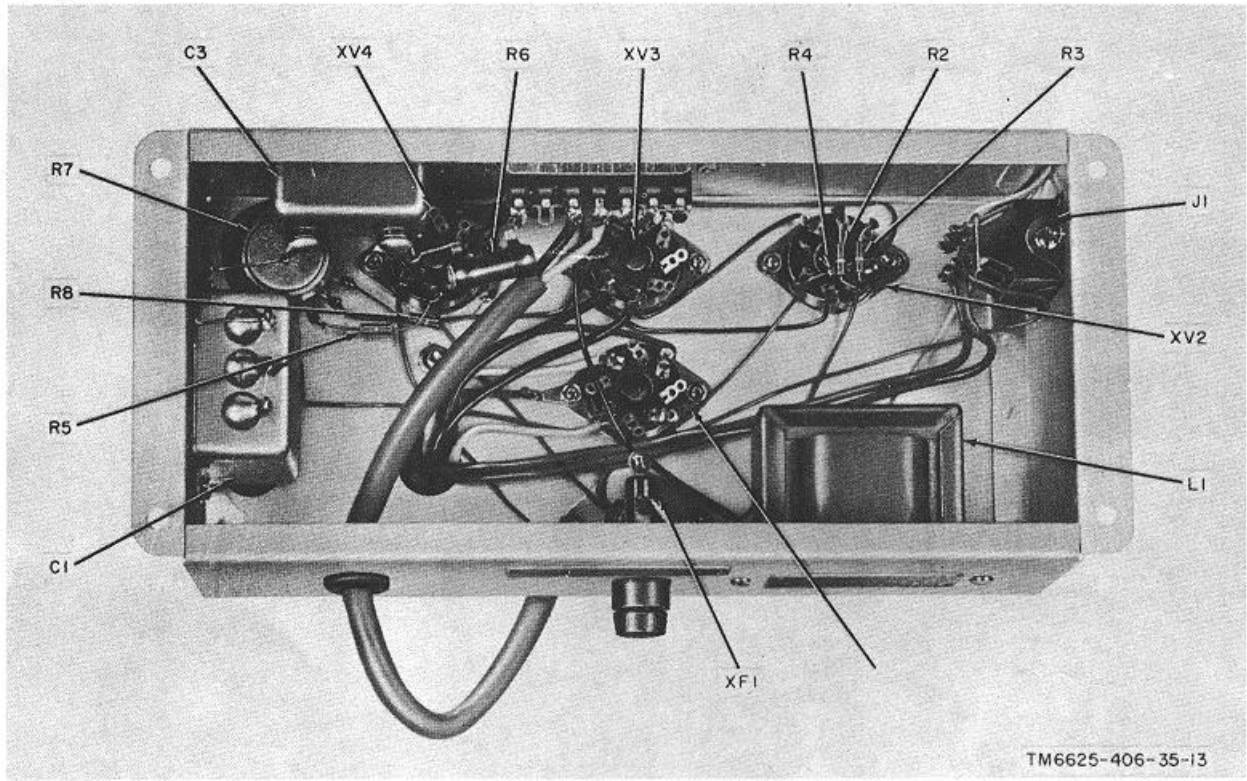
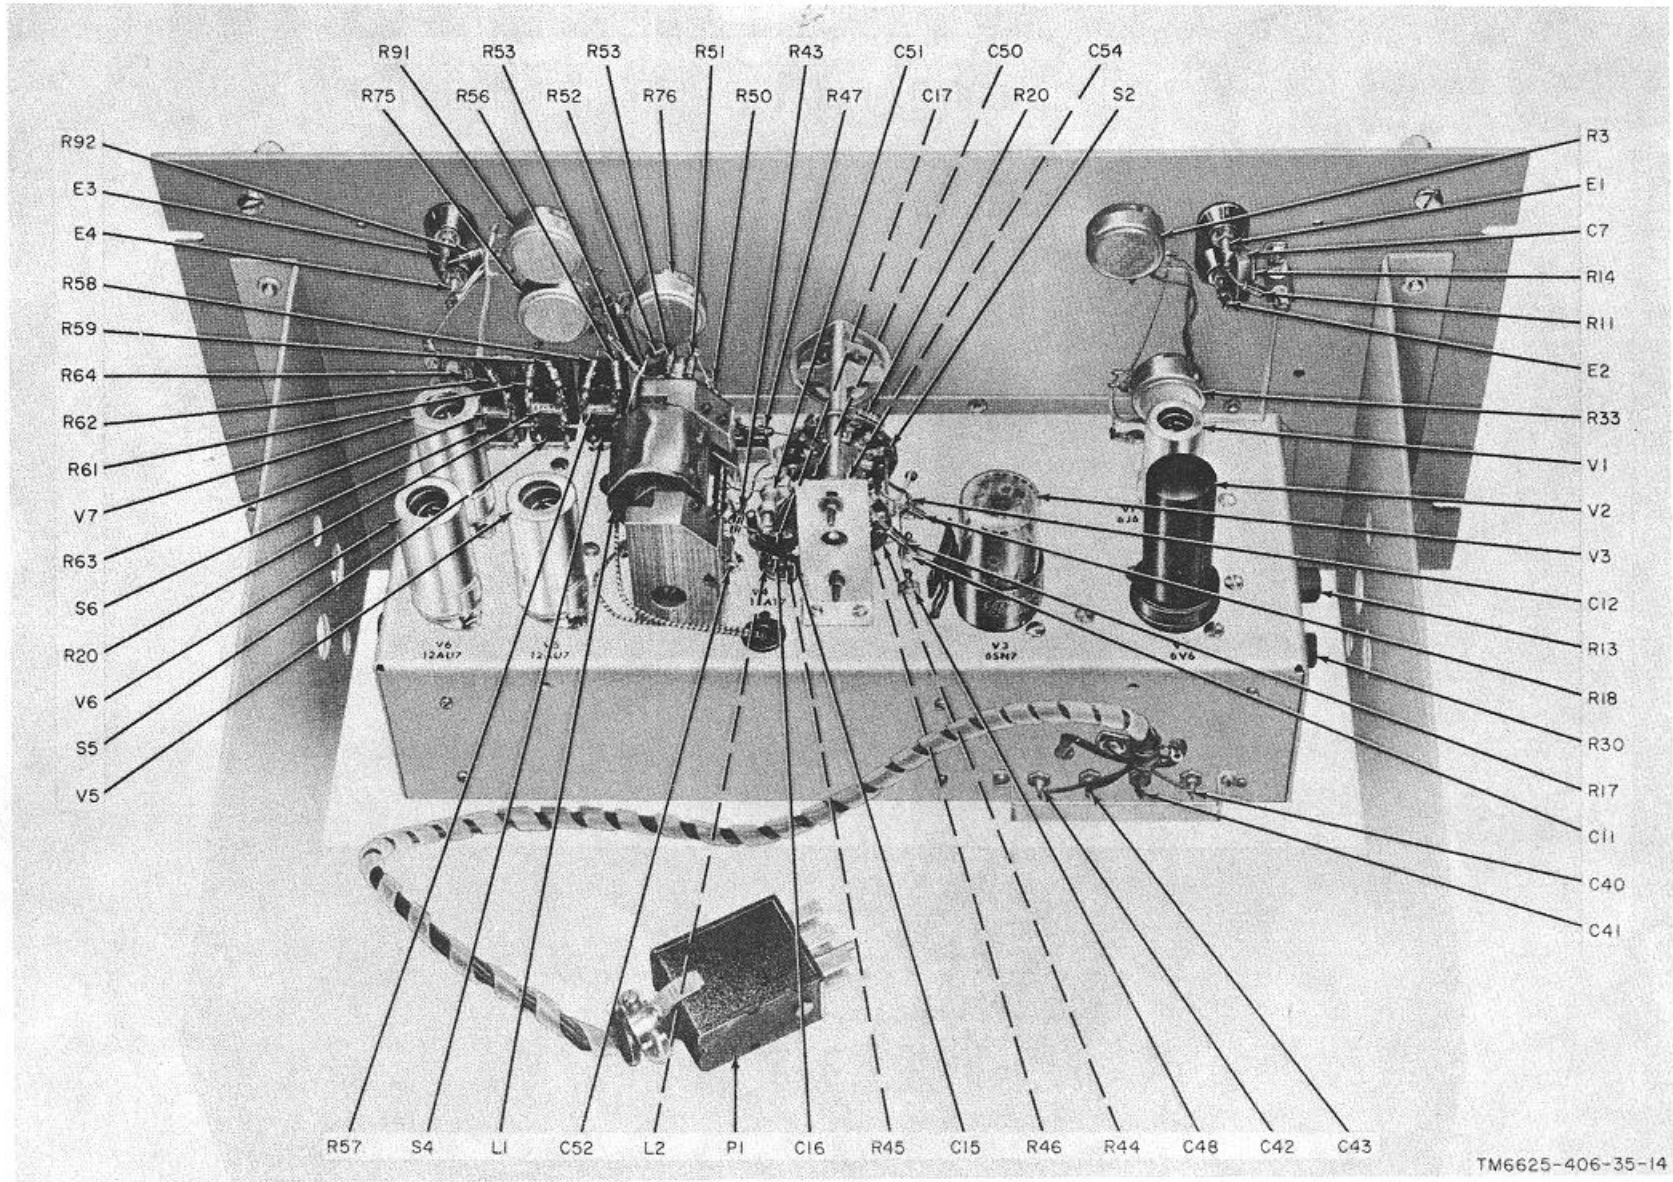

Figure 11. Power supply chassis, bottom view.
Figure 12. Oscillator chassis, top view.
- (1) Remove the signal generator from its case (para 24).
- (2) Remove all tubes and the indicator lamp (para 22).
- (3) Disconnect connector J1 (fig. 11) of the power supply chassis from connector P1 (fig. 12) on the oscillator chassis.
- (4) Set the SWEEP switch to the WIDE position.